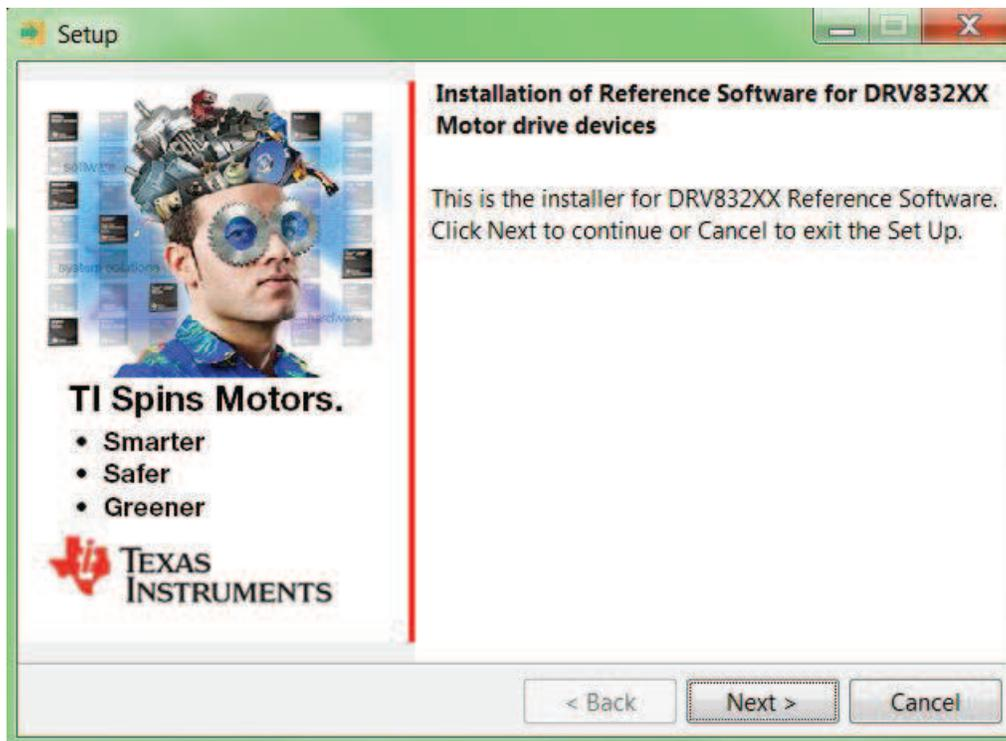

Figure 16. Setup Home Screen
- Step 3. Click the *Next* button on the DRV832XX Installer welcome screen (see Figure 16).